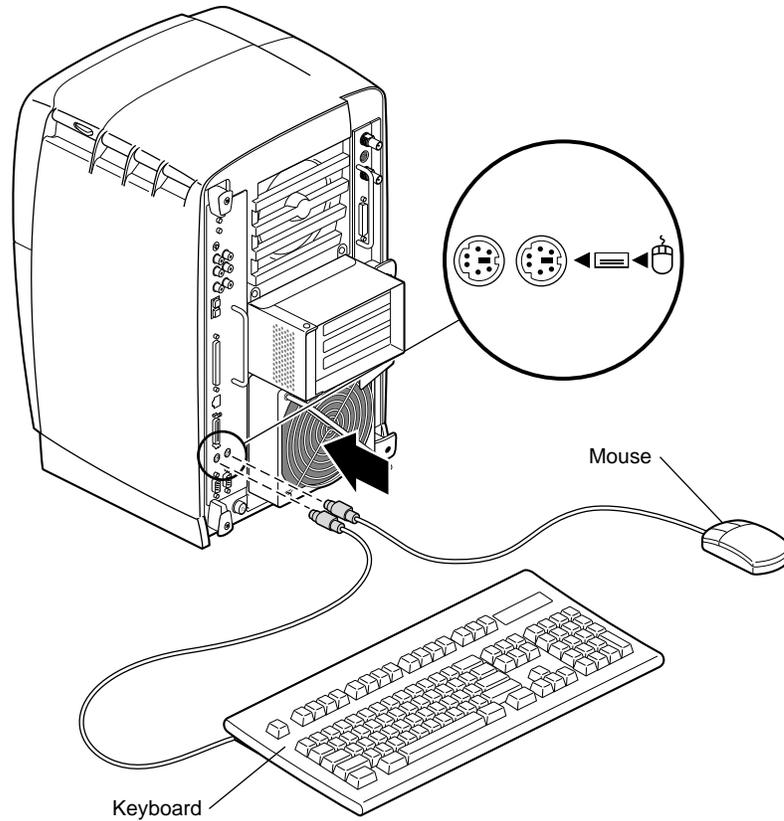

Figure 1-5 Attaching the Keyboard and Mouse Cables
1. Attach the keyboard and mouse cables, as shown in Figure 1-5.